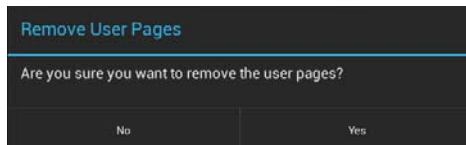

FIG. 116 Remove User Pages prompt
1. In the *Reset and Update* page, press **Remove User Pages** to open the *Remove User Pages* window (FIG. 116).